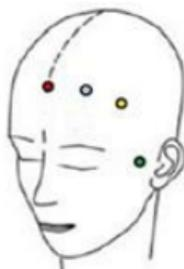
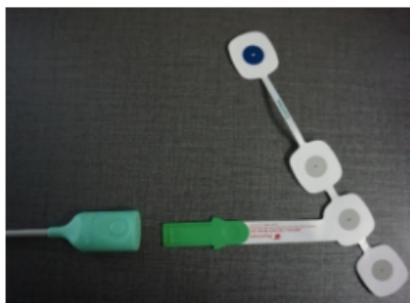

Figure 2 The EEG acquisition point
Figure 3 Connecting the anesthesia depth guide
**Attachment:** A disposable EEG sensor, a disposable accessory for the monitor, and must be replaced after each use. Refer to Figures 2 and Figure 3.